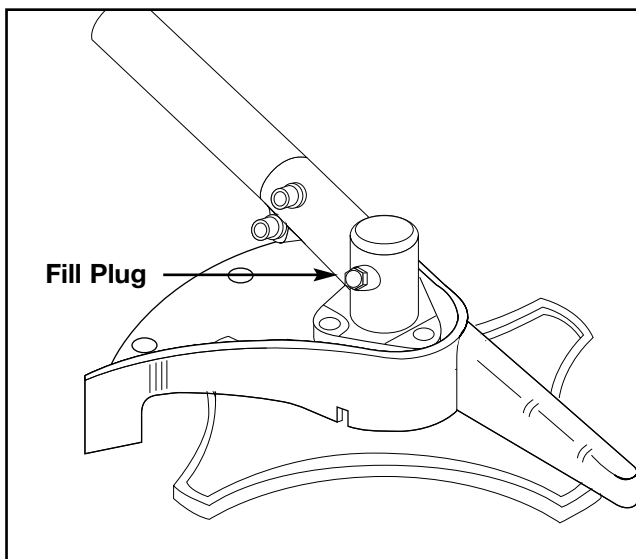

Fig. 34
2. To check the lubricant level, remove the fill plug (Fig. 34). The lubricant should be up to the bottom edge of the check hole. If it is low, bring the level up with a good quality, lithium-based, #2, multi-purpose grease.